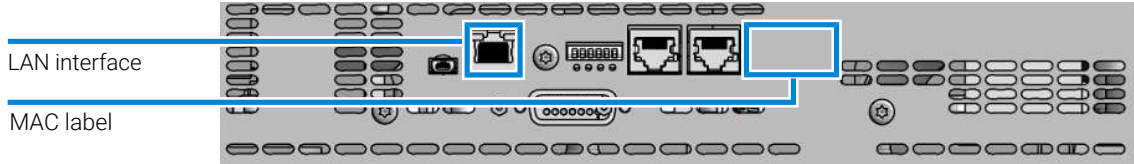
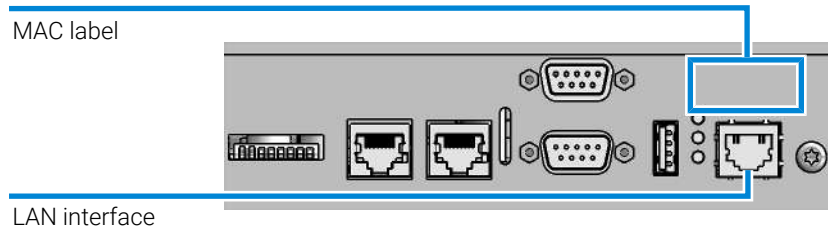

Figure 25: Location of LAN interfaces and MAC label (board with 6-bit configuration switch)
Figure 26: Location of LAN interfaces and MAC label (board with 8-bit configuration switch)
- 1 Note the MAC (Media Access Control) address for further reference. The MAC or hardware address of the LAN interfaces is a world wide unique identifier. No other network device will have the same hardware address. The MAC address can be found on a label at the rear of the module (see Figure 25 on page 199, or Figure 26 on page 199).